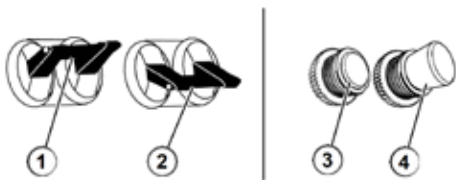

Figure 8 - Breakers
3. Make sure the circuit breakers are properly set (see Figure 8 below).